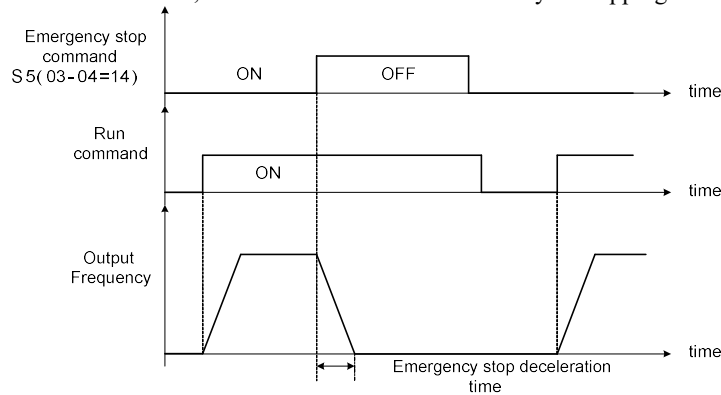

Figure 4.3.11 An example of emergency stop operation
- After the emergency stop command is entered, the inverter cannot be restarted before it stops. To cancel emergency stop, please close the operation command and emergency stop command. Please refer to Figure 4.3.11 below.